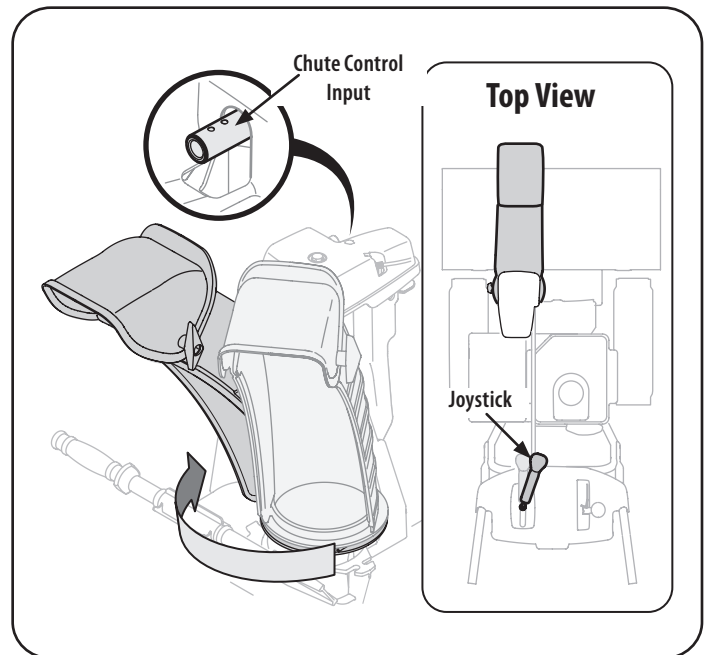

Figure 7
6. Squeeze the trigger on the handle panel joystick and rotate the chute by hand to face forward. The holes in the chute control input will be facing up. See Figure 7.